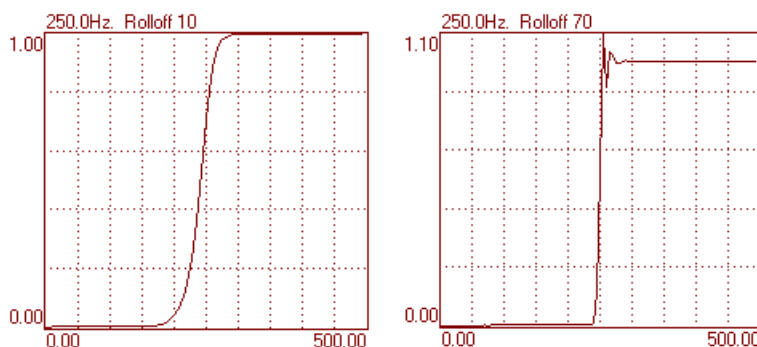

Figure D-50. Response profiles of acceptable (left) and unacceptable (right) Butterworth filters.
Datapac 2K2 uses Butterworth digital filters designed by the bilinear transform method for its low pass, high pass, band pass and band stop filters. Butterworth notch filters use a bandstop resonator function with an order of 2. It is the nature of the Butterworth algorithm that as the number of orders (poles) increases, some of the terms used in the calculation of the filter get extremely small in magnitude. A point is ultimately reached where the magnitude cannot be adequately represented in the 64 bit double precision arithmetic that Datapac employs. And at that point, errors are made in the calculation of the filter. Windows operating systems do not inform when such an overflow condition occurs, so it must be determined empirically. Unfortunately, that has turned out to be extremely difficult to achieve in software because the point of overflow changes in complex ways as a function of the number of orders in the filter, the sampling rate, and the cutoff frequency. We at RUN Technologies were therefore forced with a difficult decision: either (1) restrict the number of acceptable orders, or (2) let the user decide whether the filter they have designed is acceptable. We chose the latter alternative because we felt the former would have proven too restrictive if applied to a broad range of conditions. Besides, by looking at the response profile of a filter, it is very easy for the user to decide whether it is acceptable or not. Examples of the response profiles of an acceptable filter and an unacceptable one are shown in Figure D-50. Both are high pass filters. The acceptable filter is on the left. Note that its response profile is a smooth curve with its endpoints at gain = 0.00 and gain = 1.00. All of these conditions must be met for the filter to be considered acceptable. The response profile of an unacceptable filter is on the right. Note that the response profile is not a smooth curve, and although one endpoint is at gain = 0.00, the other is not at gain = 1.00.